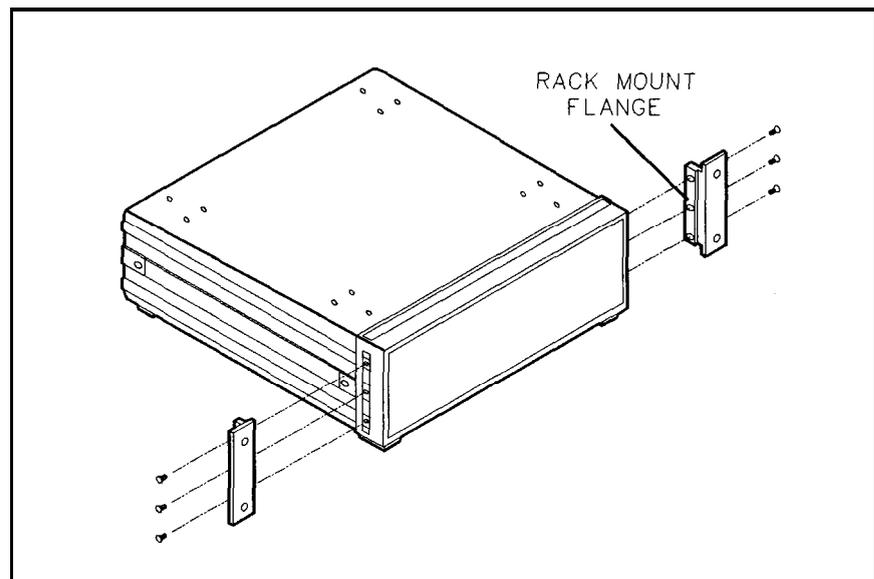

Figure 2-5. Attach the Rack Mount Flanges
4. On each instrument section, attach the rack mount flange (and front handles, for Option 913) using the three M4x0.7x16 pan-head screws provided in the kit. See Figure 2-5.